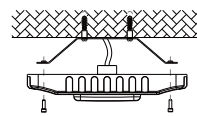

Figure 10
- 3.Mount the fixture on the mounting plate by supplied screws.(Figure 10)